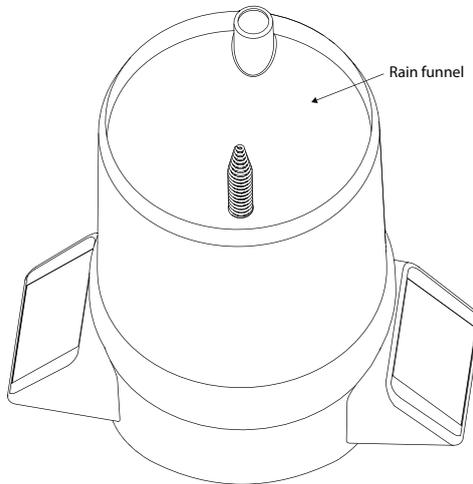

Figure 31 Rain funnel and pyranometer
- b. Rain funnel (Figure 31)
- c. Pyranometer (Figure 31)